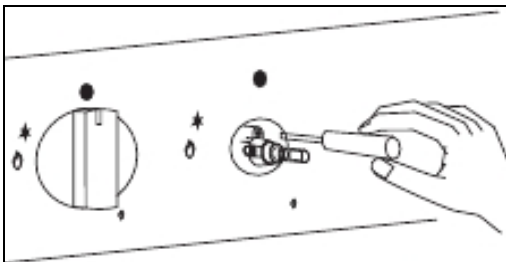

Figure 22
- 4) To adjust the flame, remove the knobs; insert a screwdriver through the access hole in valve shaft as shown. Make the adjustment by slowly turning the screw until flame appearance is correct. (See Figures 22 and 23)